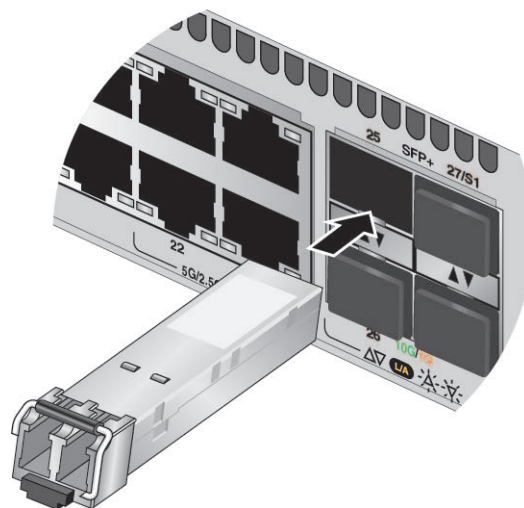

Figure 69. Installing an SFP Transceiver
3. If you are installing the transceiver in a top port, position the transceiver with the Allied Telesis label facing up. If you are installing the transceiver in a bottom port, position the transceiver with the label facing down. Refer to Figure 69.